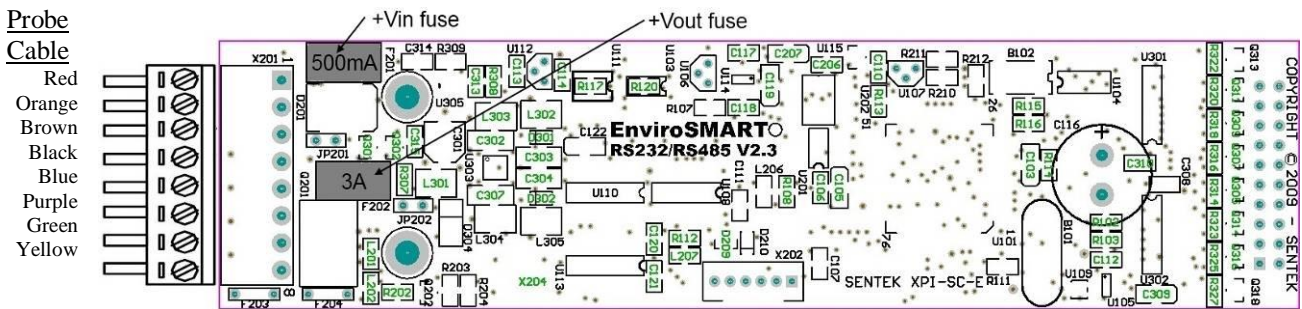
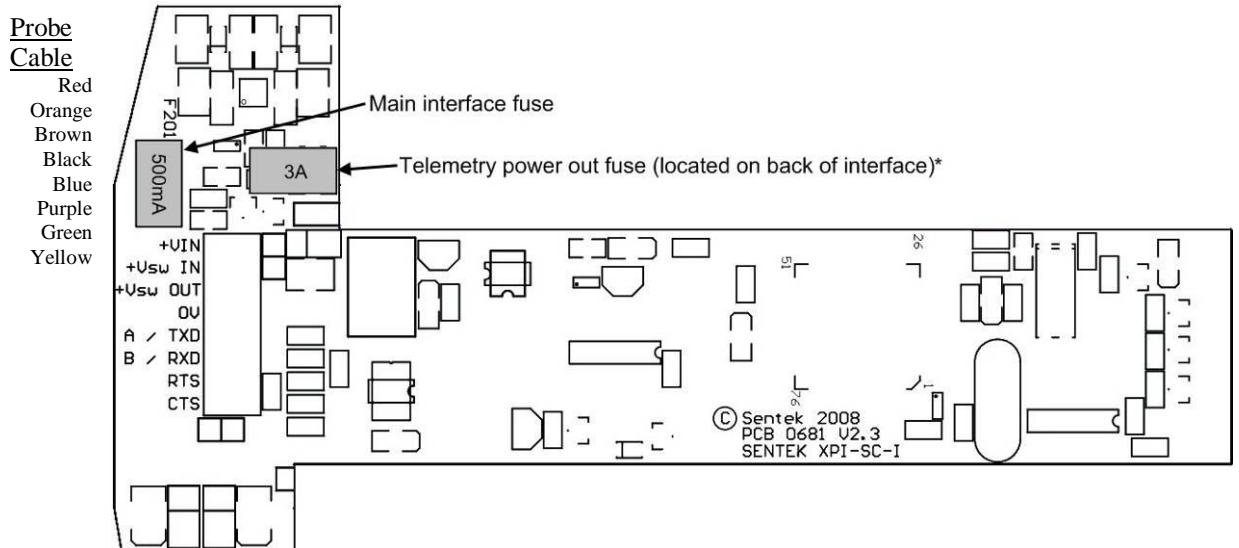

Figure 40 Sentek EnviroSCAN PLUS interface wiring
Figure 41 Sentek EasyAG PLUS interface wiring
- b) Strip the wires on the probe cable and connect them to the interface screw terminal (See Figure 40 and Figure 41).